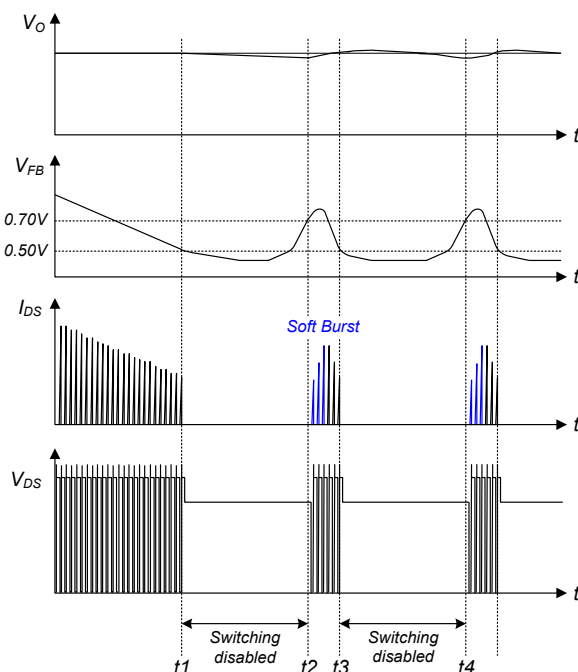

Figure 23. Burst-Mode Operation
5. Soft Burst-Mode Operation: To minimize power dissipation in standby mode, the FSGM0465R enters burst-mode operation. As the load decreases, the feedback voltage decreases. As shown in Figure 23, the device automatically enters burst mode when the feedback voltage drops below V_{BURL} (500mV). At this point, switching stops and the output voltages start to drop at a rate dependent on standby current load. This causes the feedback voltage to rise. Once it passes V_{BURH} (700mV), switching resumes. At this point, the drain current peak increases gradually. This soft burst-mode can reduce audible noise during burst-mode operation. The feedback voltage then falls and the process repeats. Burst-mode operation alternately enables and disables switching of the SenseFET, thereby reducing switching loss in standby mode.